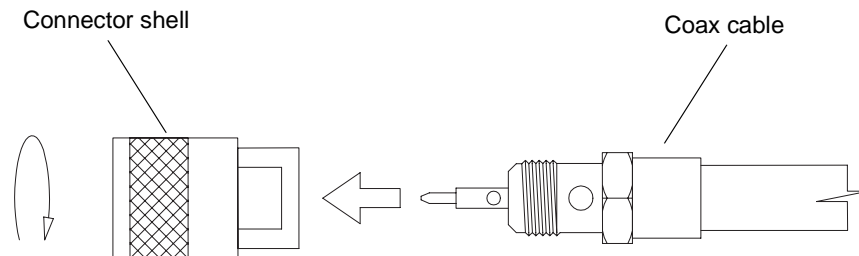

Figure 19. Assembling the Connector Body and Shell
- 7 After verifying that there are no shorts, screw the connector body and connector shell together as shown in Figure 19. Use two adjustable wrenches (one to hold the connector, the other to tighten it).